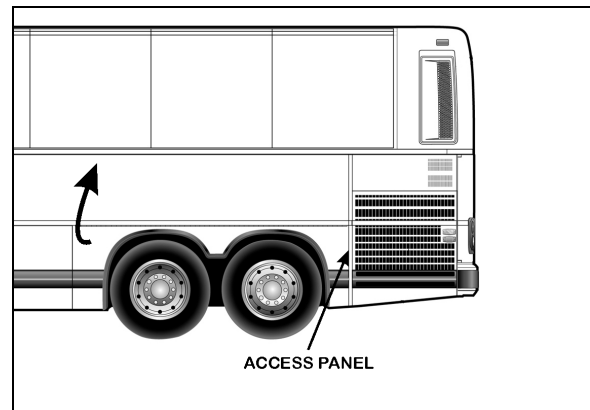

FIGURE 10: ACCESS PANEL (TYPICAL)
7. Unfasten 4 cap screws and remove access panel located behind tag axle L.H. side wheel (refer to figure 10).